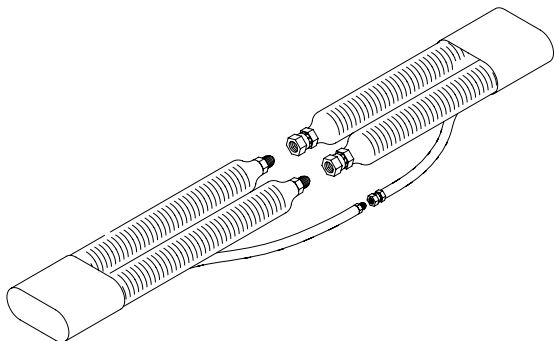

FIG. 14: Hose Connection (step a)
- a. Lay out hose assemblies end-to-end as shown in FIG. 14.